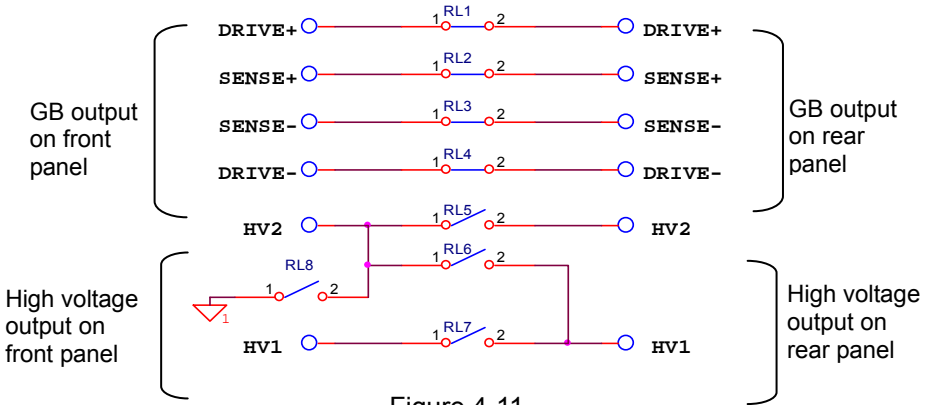

Figure 4-11
- i. When GFI setting is FLOAT under PRESET option, connection diagram of front panel and rear panel terminal is as Figure 4-11 shown: